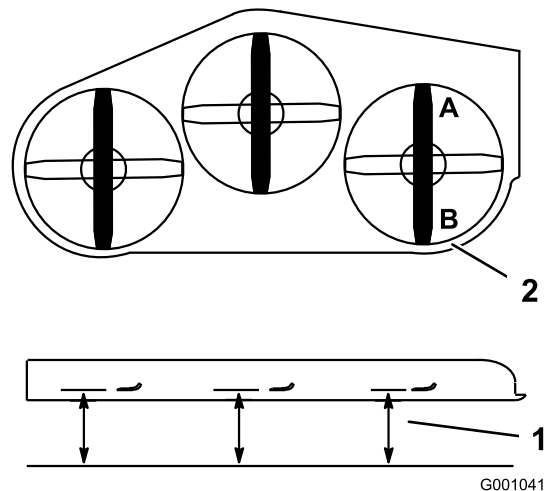

Figure 73
2. Position 1 blade front-to-rear. Measure at **A** and **B** locations from a level surface to the cutting edge of the blade tips (Figure 73).